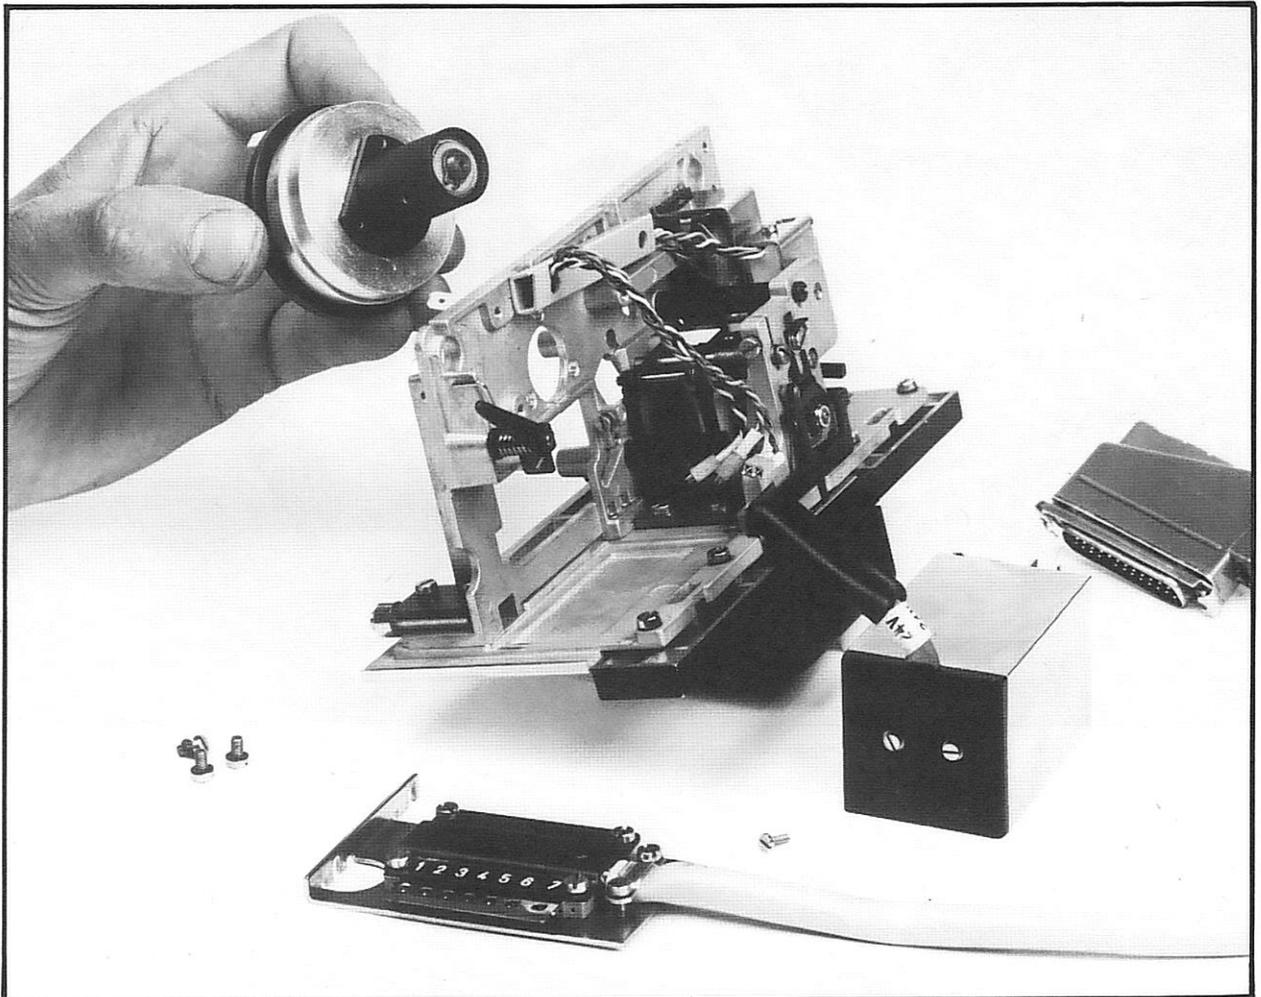

Fig. 6.37 Replacing the Centrifugal Clutch
6.3.9 Replacing Centrifugal Clutch (See Fig. 6.37)